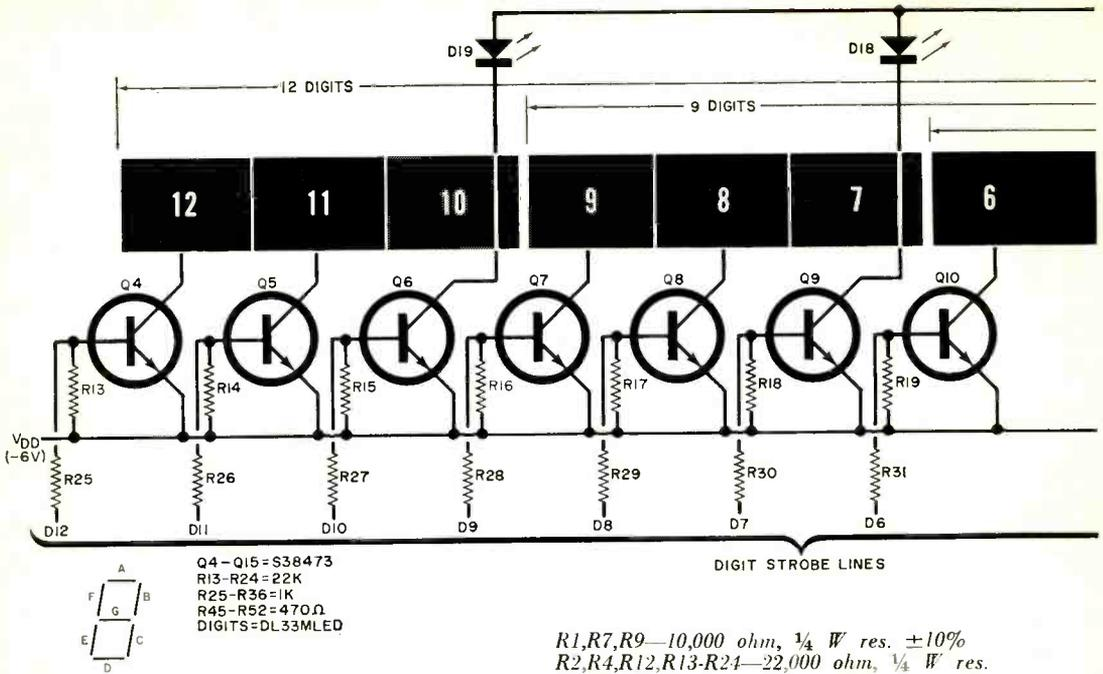

Fig. 3. Schematic and parts list for calculator. Wiring for the various display options is included. Refer to the article.
The output of the chip is positive logic; that is, the active output (1) is  $V_{SS}$  and the inactive output (0) is  $V_{DD}$ . The output is configured to drive the display in a multiplex mode and consists of 12 digit strobe lines (lines prefixed with a "D" in Fig. 3), 8 segment lines (7-segment display plus the decimal), and one sign line (1 implies a negative number to the display and 0 implies a positive number). The chip output data is a standard 7-segment format so that no external BCD-to-7-segment decoder is required. The chip automatically keeps track of where the decimal point is located and the decimal-point segment line will go active when the appropriate digit is strobed on to correctly position the decimal.
**Readouts.** This particular calculator uses LED-type readouts, arranged in the familiar 7-segment configuration, as shown in the readout portion of Fig. 3.
The MOS calculator chip cannot drive the LED readouts directly for two reasons. The chip digit or strobe lines do not have sufficient current capacity to cause the LED segments to glow; and the output drive signal does not have the correct polarity. The active output of the chip is zero volts while the inactive output is -6 volts. If you check the readout portion of Fig. 3, you will note transistors Q4 through Q15. These transistors supply the LED drive by providing current amplification and signal inversion. All similar segments of each readout are connected in parallel and are driven by a single segment line (A through G of Fig. 3). However, all segments within a given digit have common cathodes which are connected to the collector of the digit driver transistor for that particular digit. A basic